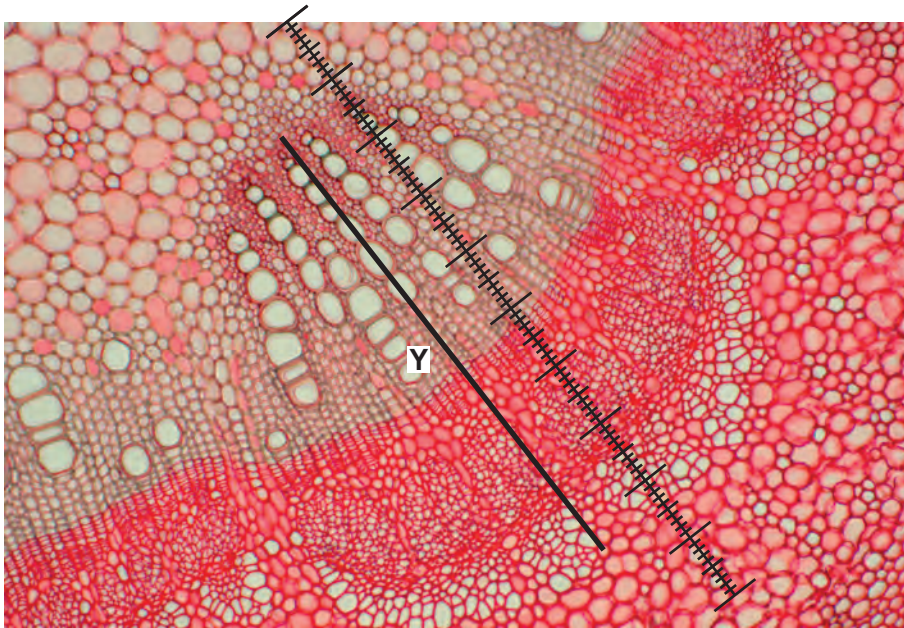

Fig. 2.2
(b) Fig. 2.2 is a stained transverse section through part of the stem of a different plant species. You are not expected to be familiar with this specimen.
Fig. 2.2 shows a photomicrograph taken using the same microscope with the same lenses as the student.
Use the calibration of the eyepiece graticule division and Fig. 2.2 to calculate the actual length of the vascular bundle, shown by line Y.
- (c) The plant in Fig. 2.2 produces fruit that are an important source of food for many animals in the ecosystem in which they grow.